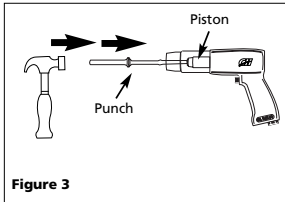

Figure 3
2. Attempt to free jammed piston using punch (See Figure 3).